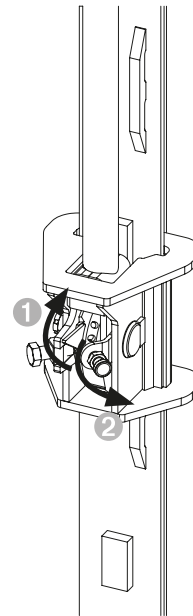

Fig. D2.01
1. Set all switch units in the climbing heads to "Climbing: Rail" (Fig. D2.01)